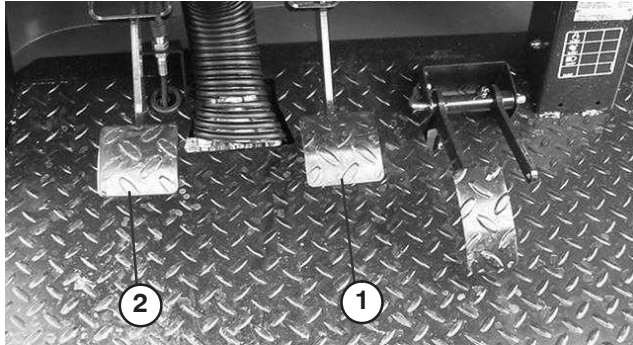

Figure 61
2. Lift up on brake pedal (Fig. 61) until it contacts frame.
3. Lift up on clutch pedal (Fig. 61) until it contacts frame.